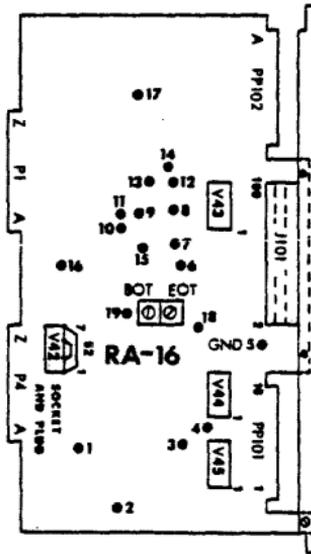

FIGURE 6
NOTE: The BOT and EOT pots on the RA-16 (1600 bpi Figure 6) card and the RC-11 (800 bpi Figure 16) card must be turned all the way counter-clockwise before you adjust the pots on the BOT/EOT Sensor card.
- Route the cables up through the base. Connect the other end of the cable (P.C. Board) into the back of the drive. Squeeze the "DEV 45" into the J101 connector on the RA-16 card (refer to Figure 6), and attach it to the chassis with screws.